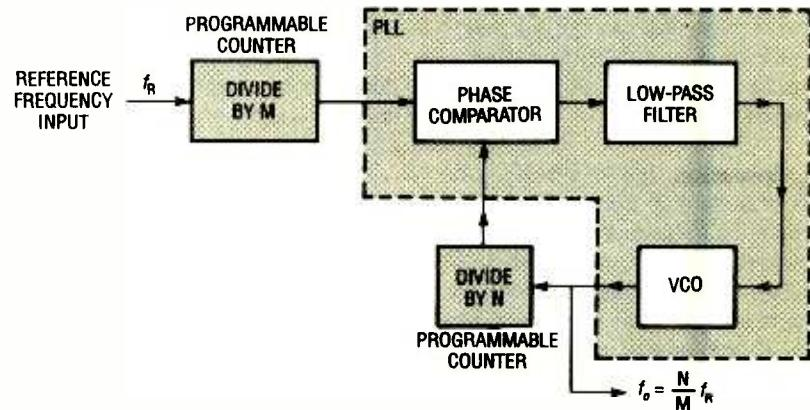

Fig. 3. The PLL can be used to generate new frequencies from a stable reference source by either frequency multiplication or division.
Frequency Synthesis. The PLL can be used to generate new frequencies from a stable reference source by either frequency multiplication and division, or transition. Figure 3 shows a typical frequency multiplication and division circuit using a PLL and two programmable counters. In that application, one of the counters is inserted between the VCO and the phase comparator, effectively dividing the VCO frequency by the counter's modulus (N). When the system is in lock, the VCO output is related to the reference frequency (f_R) by the counter moduli M and N as: